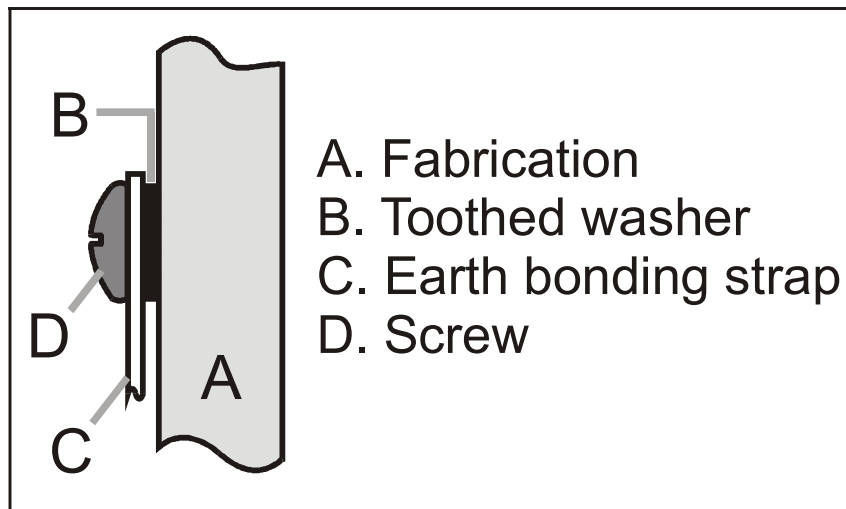

Figure 7-7 Earth bonding strap installation
- c) Refit two earth bonding straps (02-41)/(03-41) to the thigh section fabrication using two screws (02-43)/(03-43) and toothed washers (02-40)/(03-40). Fit the toothed washer between the earth bonding strap and metal fabrication to improve electrical continuity – refer to Figure 7-7.
- d) Refer to Figure 7-7. Attach the earth bonding strap (02-41)/(03-41) between the thigh and calf sections using toothed washer (02-40)/(03-40) and screw (02-43)/(03-43).
- c) Refer to Figure 7-7. Attach the earth bonding strap (02-41)/(03-41) to the bottom tube of the backrest, using a screw (02/43)/(03/43) and toothed washer (02/40)/(03/40).